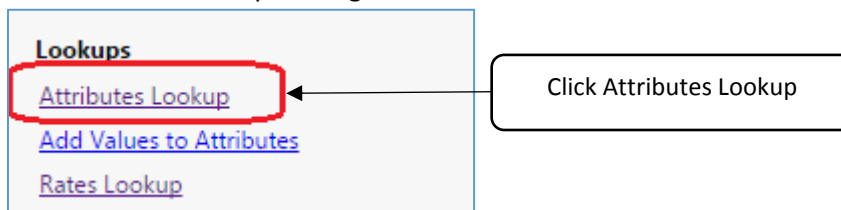

Figure 3.
- 1) Click Attribute Lookup. See figure 3.